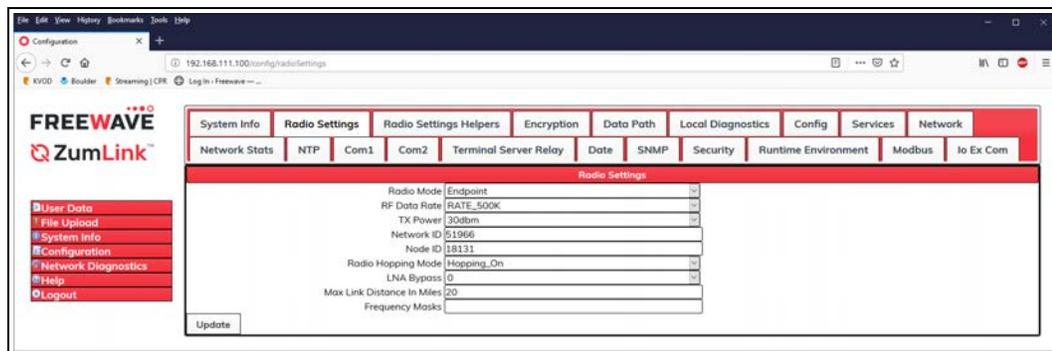

Figure 149: Radio Settings window - Endpoint
7. Click the **Radio Mode** list box arrow and select the device type to designate the Z9-P or Z9-PE as an **Endpoint**. Figure 149